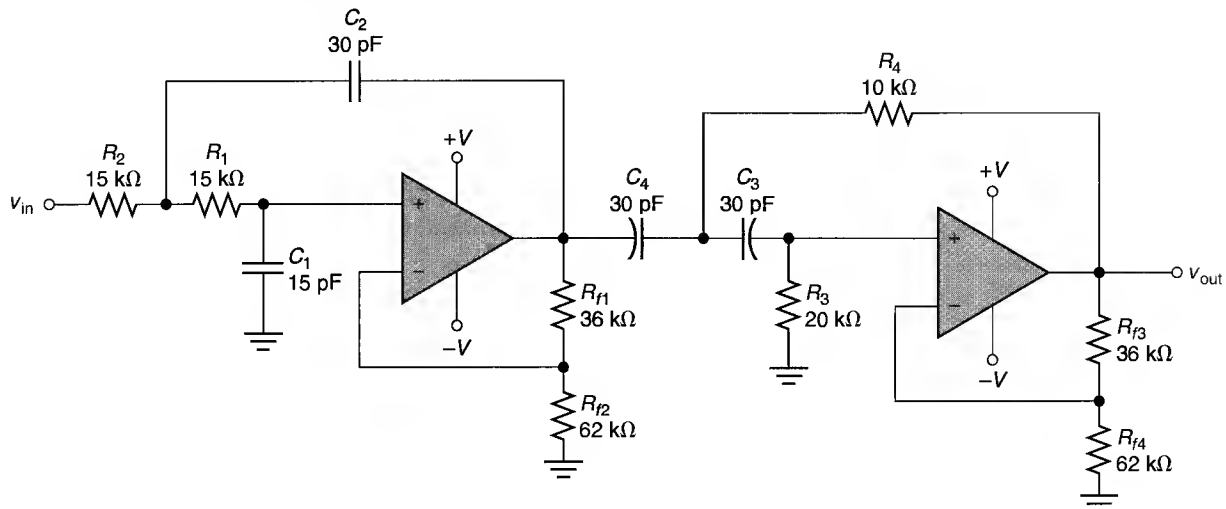

FIGURE 17.51
16. Calculate the values of f_{C1} , f_{C2} , bandwidth, geometric center frequency, and Q for the band-pass filter in Figure 17.51.